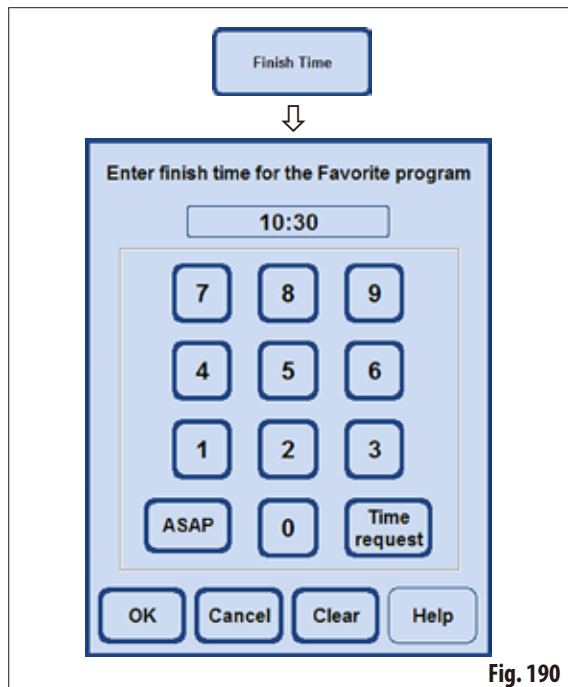

Fig. 190
- Press the **FINISH TIME** button to call up the entry window for the finish time (Fig. 190).